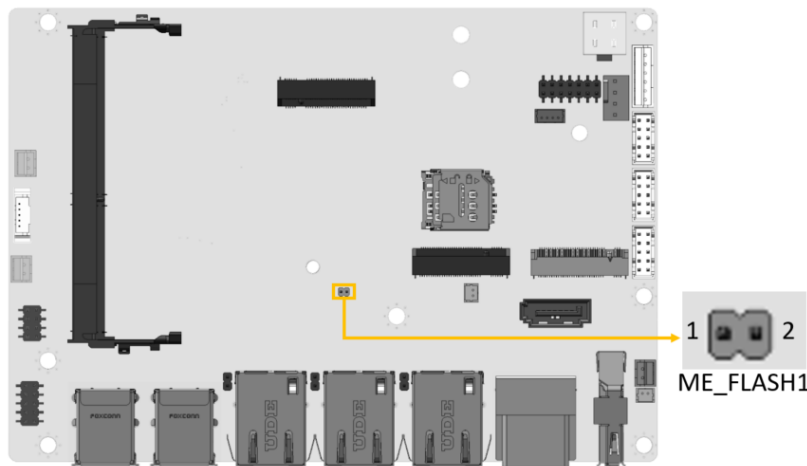

Figure 3-37: ME Override Setting Jumper Locations
- CN Location:** See **Figure 3-37**